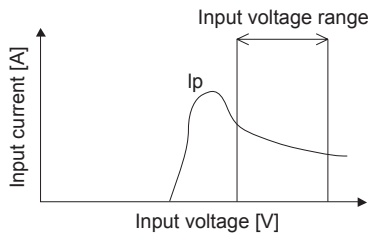

Fig.2.2 Input Current Characteristics
- Choose a front end power supply that can supply enough current I_p (Fig. 2.2) for starting up the power module.